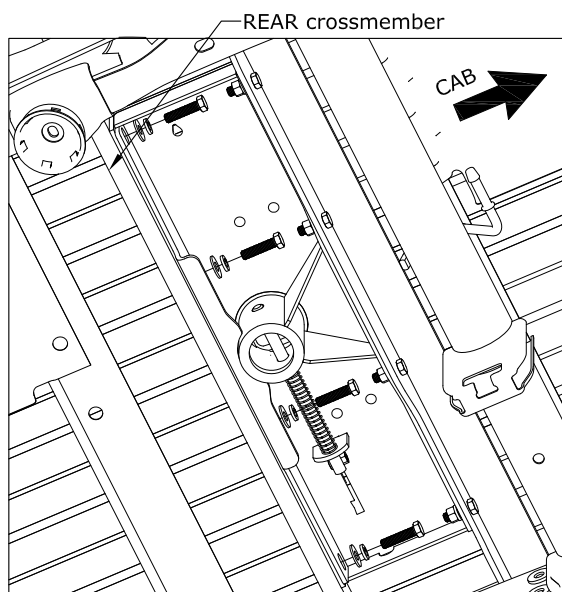

Figure B11: View under the center section looking from in front of the axle on the passenger side.
6. **Attach the rear crossmember to the center.** Slide the rear crossmember up against the center section. Line up the slots in the center with the threaded holes in the crossmember. Attach the two members using $\frac{1}{2}$ x 2" long bolts, flat washers, and lock washers as shown in Figure B11. Hand tighten bolts.